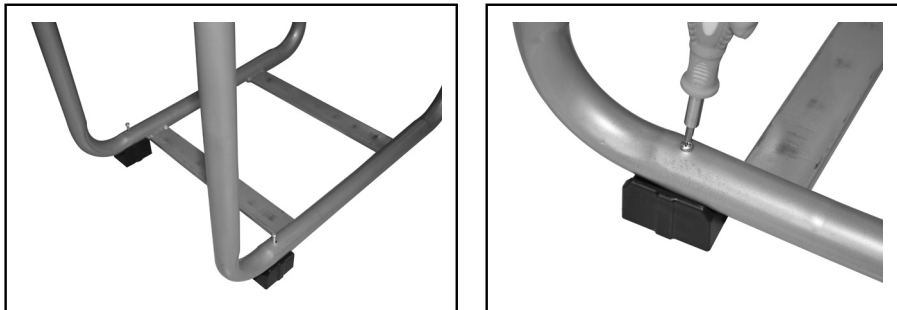

Fig. 5
3. Fit the front wheel sets to the base frame with the aid of two front set fixing screws (Fig. 5).